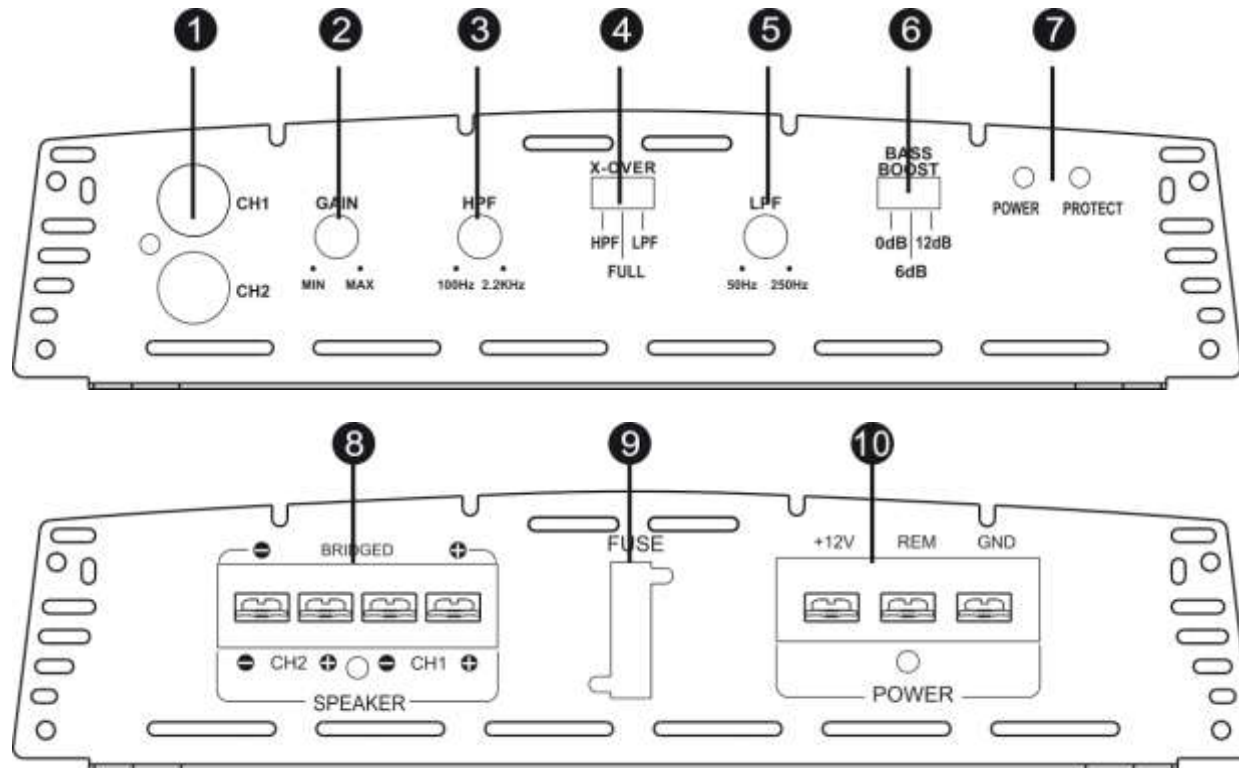

Fig. 5
The regulator for input sensitivity is used to adapt amplifier for each car radio or tape deck. Turn the volume control of your radio to central position and adjust the input-level control (2) Fig. 5, to produce medium volume. This setting can provide sufficient power and optimum Signal to Noise (S/N) ratio.